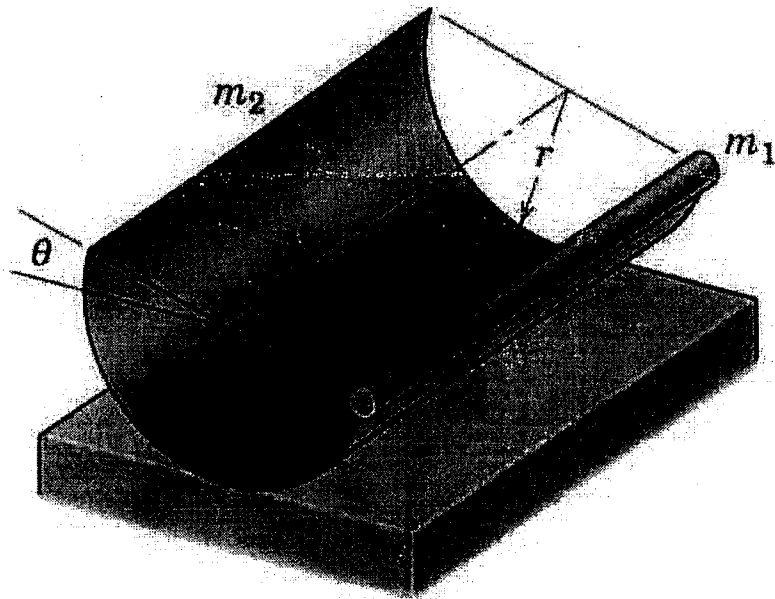
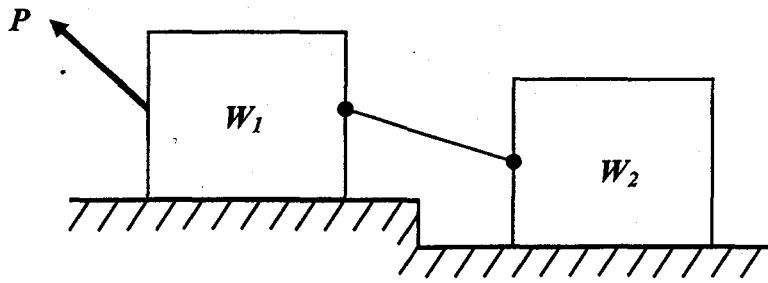

Fig. 3.
Fig. 4.
- (b) A uniform slender rod having mass m_1 is welded centrally (Fig.3) to the horizontal edge of a uniform semi-cylindrical shell having mass m_2 . The composite body is resting on the horizontal floor. Express θ in terms of m_1 and m_2 for which the system is in equilibrium. (7)
- 3(a) State Coulomb's laws of friction. (2)
- (b) Two blocks having weights W_1 and W_2 are connected by a string and rest on horizontal floors as shown in Fig.4. If the angle of static friction for each block with the floor is ψ , determine the magnitude and direction of the minimum force P applied to the upper block that will induce sliding. (8)